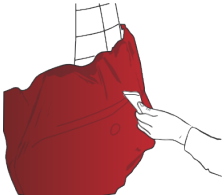

Figure 22
- › Apply the film over the whole surface using a felt-covered, plastic squeegee, and carefully wipe over the convex area (FIG. 22) to eliminate any tensions and folds.